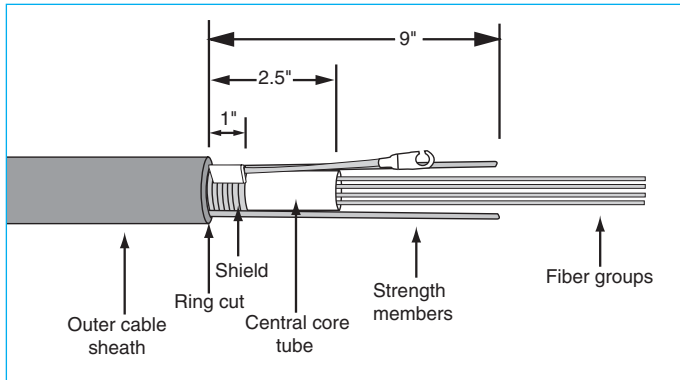

Figure 6.
7.3.2 If dual strength members (e.g., LXE) or multiple metallic strength members (eg., crossply) are present: expose each strength member and cut it off 9" from the ring cut. (Figure 6)
7.3.4 If metal shield is present: Remove all but 1" of the metal shield. (Figure 6) Pry open a 1" tab in the exposed metal shield where the shield overlaps. Crimp the bond clamp onto the edge of the shield.
7.3.6 Cut the central core tube 9" from the ring cut and remove the excess tube. (Figure 6)